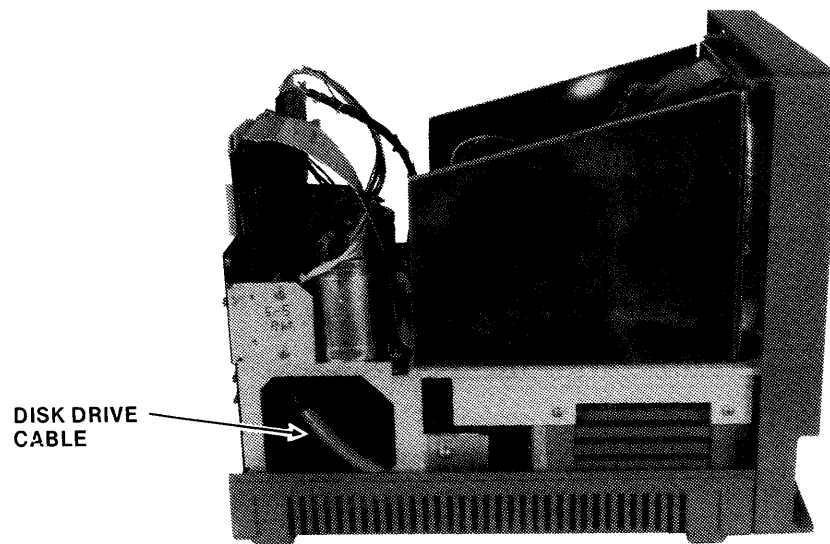

Figure 4-8. Disk Drive Control Cable Routing 559-62
8. Dress the cable along the side of the main chassis as shown in Figure 4-8.